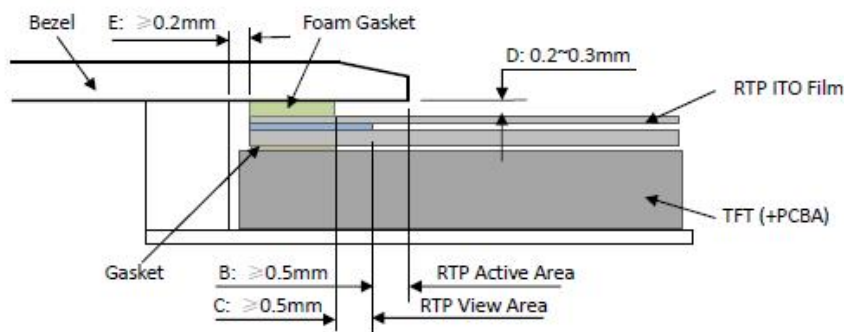

Figure 4
- It should bezel touching the RTP Active Area (A.A.) to prevent abnormal touch. It should left gab $D=0.2\sim0.3\text{mm}$ in between. (Figure 4)
- Outer bezel design should take care about the area outside the A.A. Those areas contain circuit wires which is having different thickness. Touching those areas could de-form the ITO film. As a result bezel the ITO film be damaged and shorten its lifetime. It is suggested to protect those areas with gasket (between the bezel and RTP). The suggested figures are $B\geq 0.50\text{mm}$; $C\geq 0.50\text{mm}$. (Figure 4)
- The bezel side wall should keep space $E=0.2\sim0.3\text{mm}$ from the RTP. (Figure 4)
- 为避免面框直接压在动作区 (A. A.) 上造成误动作，面框与电阻触摸屏 (RTP) 之间应留有一定的空隙 $D=0.2\sim0.3\text{mm}$ 之间. (附图 4)
- 设计面框时，要注意用面框保护触摸屏四周的非保证操作区域，因为布线区域在此处形成一台阶，在此区域附近操作时 ITO Film 变形较大，容易导致 ITO 损坏而降低寿命。为保护 RTP 和避免误操作，在 RTP 与面框之间垫缓冲物 (Gasket)，我们建议设计面框应覆盖动作区的边缘，面框边缘到 V. A. 区的距离 $B\geq 0.50\text{mm}$ ；垫圈内边缘到 V. A. 区的距离 $C\geq 0.50\text{mm}$ 。 (附图 4)
- 在设计面框与 RTP 组装时，应考虑到面框内侧与 RTP 外侧的间距 $E\geq 0.2\text{mm}$ 。 (附图 4)